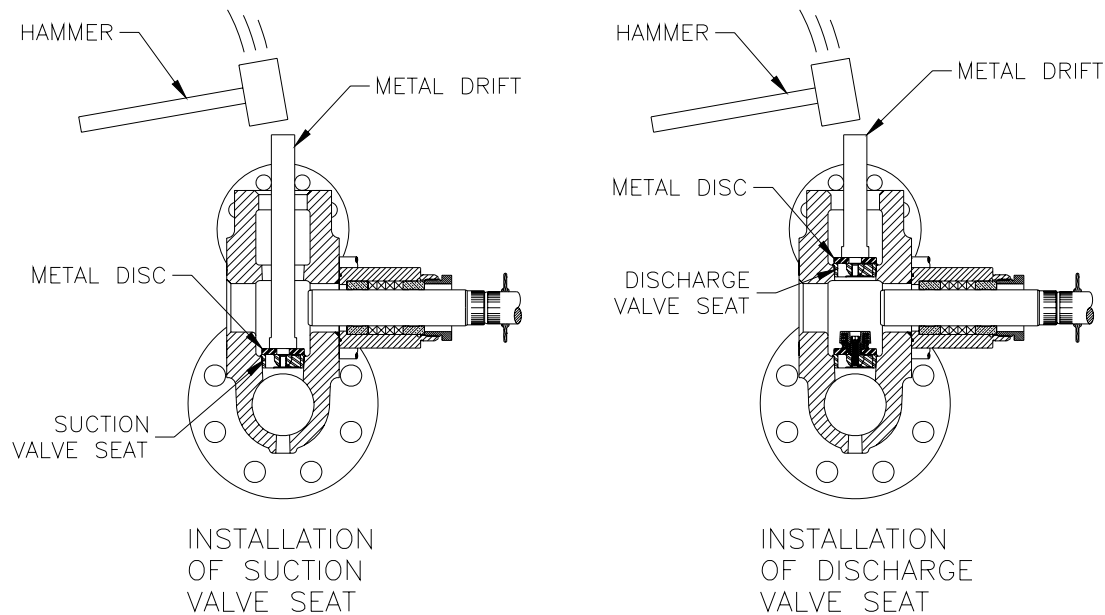

FIGURE 12
- d. Using a metal plate or old worn valve body, drive the seat into place with several sharp blows from a hammer and bar. (See Figure 12)